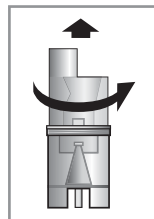

Fig. 1
2. Remove the top of the nebulizer by turning it counterclockwise (Fig.1).